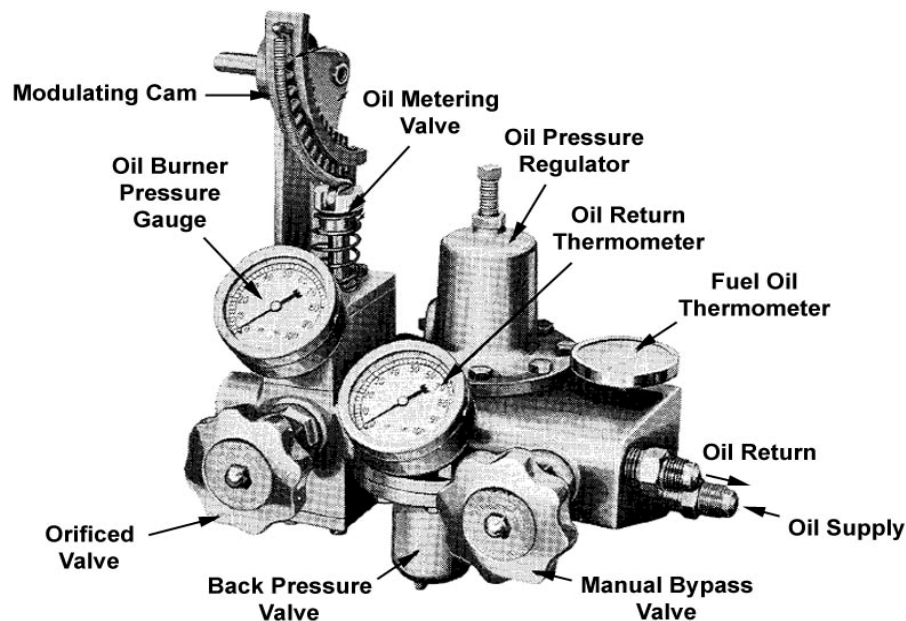

FIGURE 1-5. Oil Control Valve Assembly: For Heavy Oil
**NOTE:** The fuel oil controller shown in Figure 1-5 is for a No. 5 or 6 oil fired burner. Some of the above items are not required on burners equipped for No. 4 oil. Oil flow, and its control, for each of the grades of oil is outlined in Section 1.16 of this chapter. Nozzle purge is provided only on No. 5 and 6 oil burners.